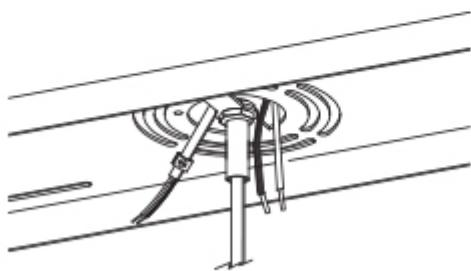

Figure 10
13. Repeat steps 11 and 12 for the remaining two pendants. Make adjustments as needed to ensure the configuration meets your needs. *Note: The center pendant cord should travel through the threaded nipple and back down through the center clearance hole, as shown above.* (Figure 10)